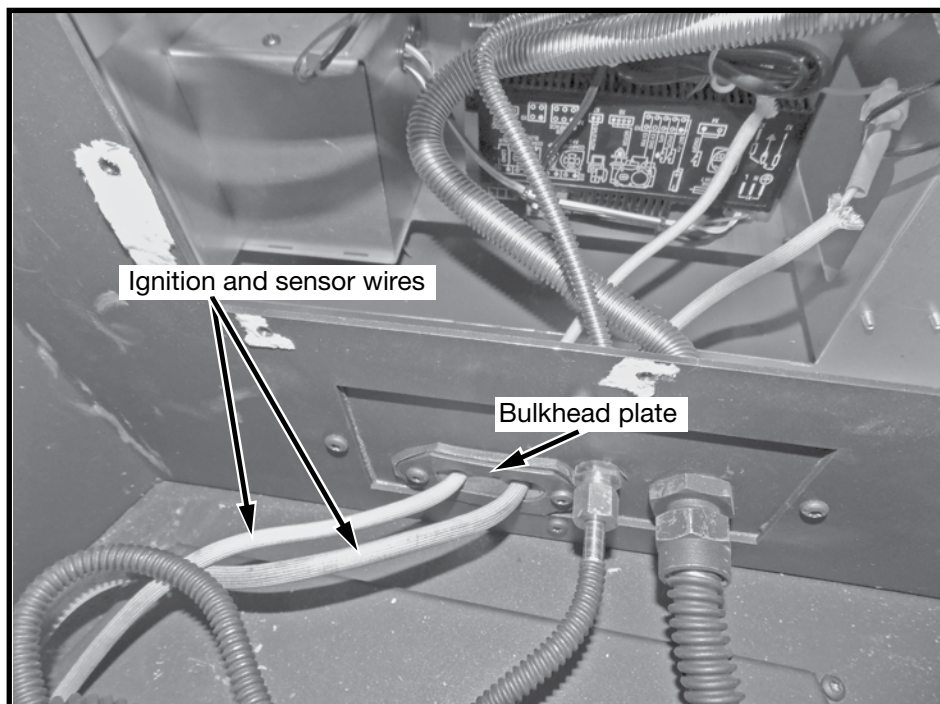

Figure 9: Ignition and sensor wires routing.
7. Feed the ignition and sensor wires through the bulkhead plate and gasket to the firebox (Figure 9).